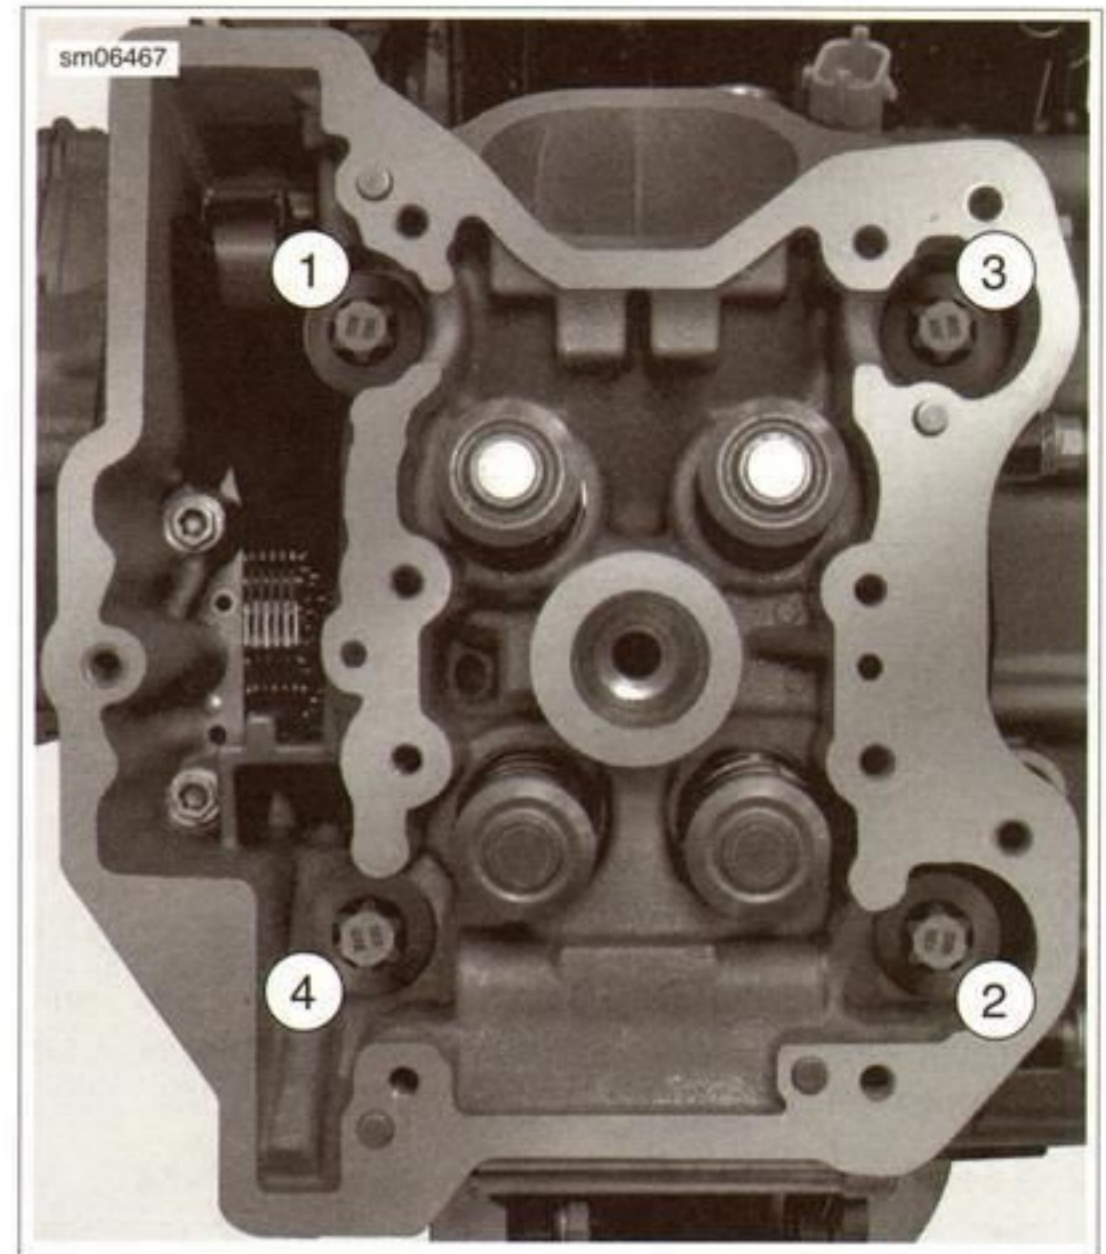

Figure 3-83. Fastener Cross Pattern
6. See Figure 3-83. Loosen large cylinder head fasteners in cross pattern.